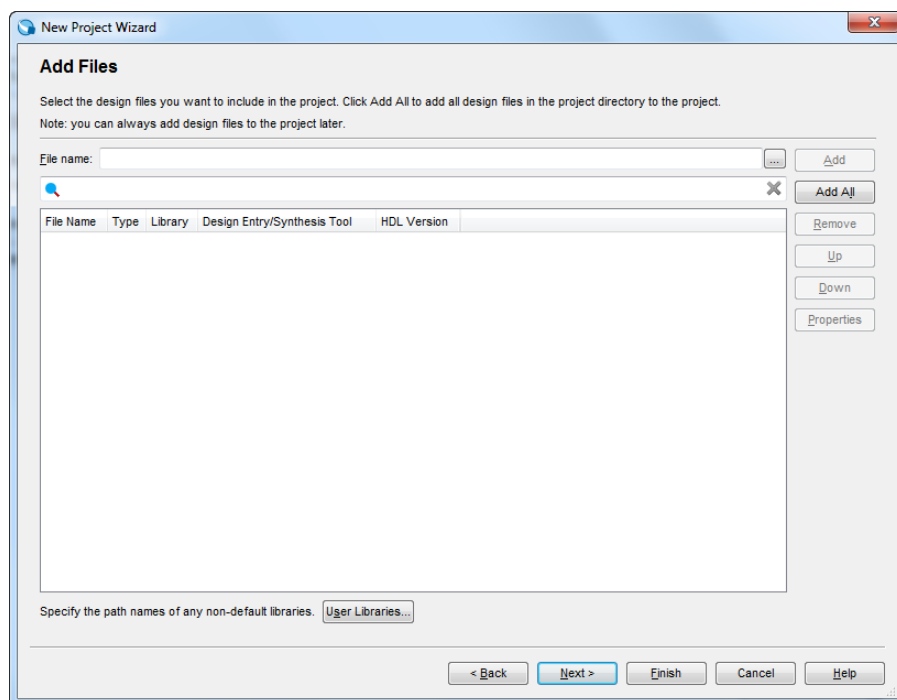
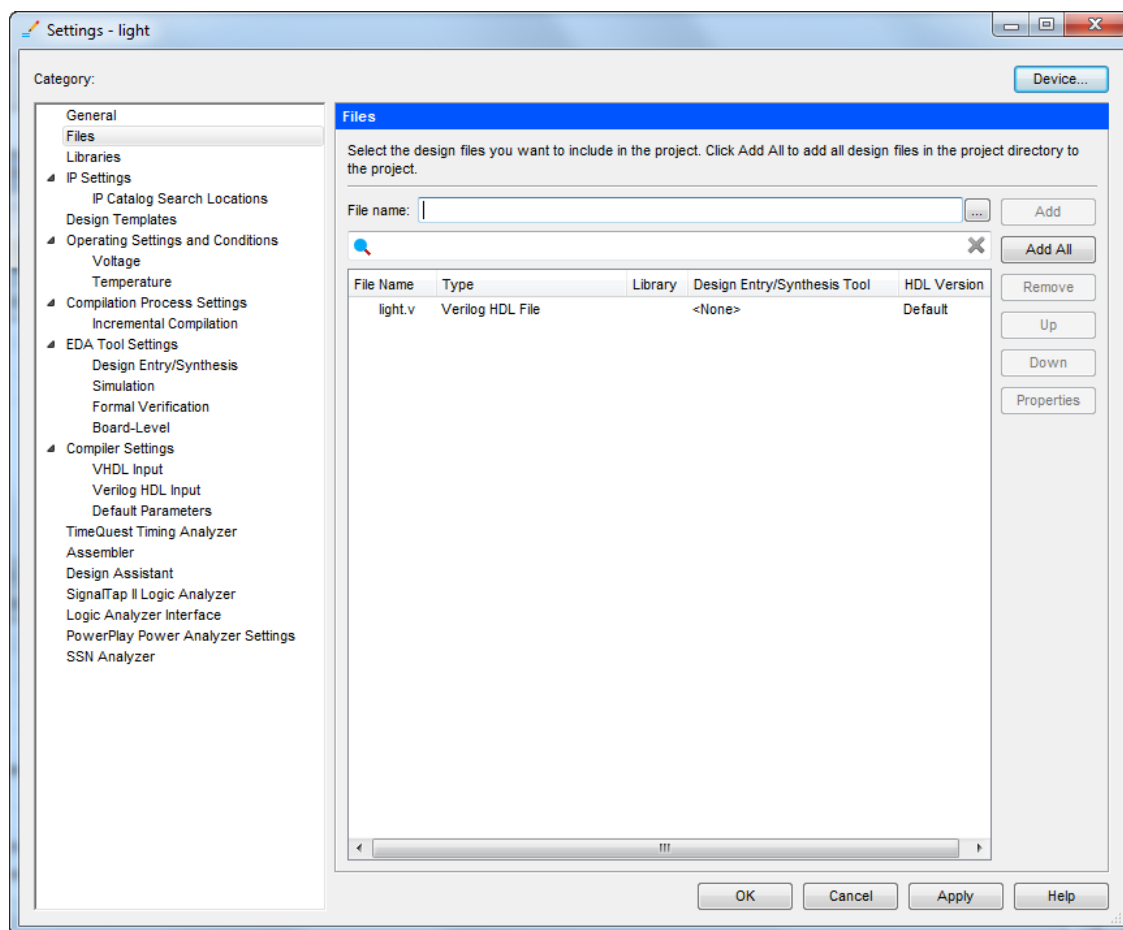
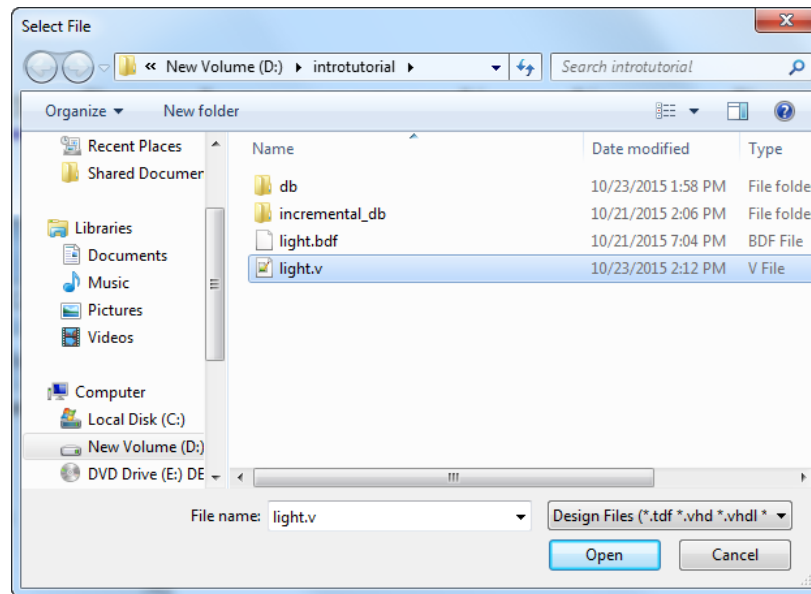

Figure 7. The wizard can include user-specified design files.
Figure 17. Settings window.
Figure 18. Select the file.
3. The Project Type window, shown in Figure 6, allows you to choose from the Empty project and the Project template options. For this tutorial, choose Empty project as we will be creating a project from scratch, and press Next which leads to the window in Figure 7.
As we indicated when discussing Figure 7, you can tell Quartus Prime software which design files it should use as part of the current project. To see the list of files already included in the *light* project, select **Assignments > Settings**, which leads to the window in Figure 17. As indicated on the left side of the figure, click on the item **Files**. An alternative way of making this selection is to choose **Project > Add/Remove Files in Project**.
If you used the Quartus Prime Text Editor to create the file and checked the box labeled **Add file to current project**, as described in Section 5.1, then the *light.v* file is already a part of the project and will be listed in the window in Figure 17. Otherwise, the file must be added to the project. So, if you did not use the Quartus Prime Text Editor, then place a copy of the file *light.v*, which you created using some other text editor, into the directory *introtutorial*. To add this file to the project, click on the ... button next to the box labeled **File name** in Figure 17 to get the pop-up window in Figure 18. Select the *light.v* file and click **Open**. The selected file is now indicated in the **File name** box in Figure 17. Click **Add** then **OK** to include the *light.v* file in the project. We should mention that in many cases the Quartus Prime software is able to automatically find the right files to use for each entity referenced in Verilog code, even if the file has not been explicitly added to the project. However, for complex projects that involve many files it is a good design practice to specifically add the needed files to the project, as described above.